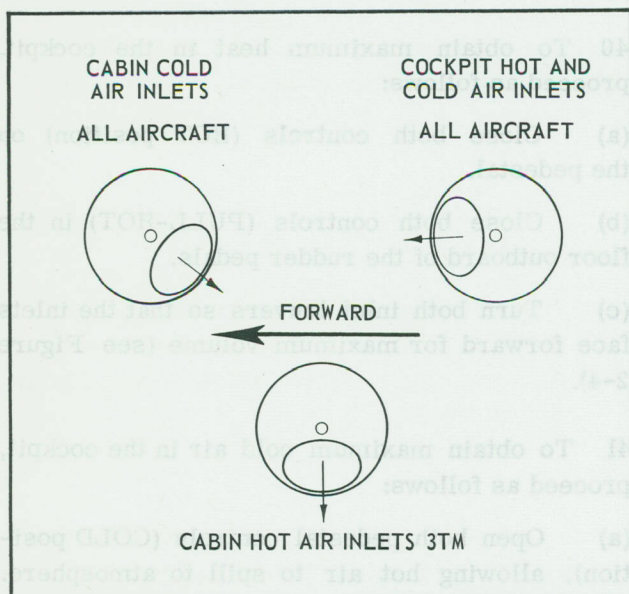

Figure 2-4 Maximum Flow Positions of Inlet Louvers
- (c) Turn both inlet louvers so that the inlets face forward for maximum volume (see Figure 2-4).
- (c) Turn both inlet louvers forward for maximum volume (see Figure 2-4).
- (c) Adjust the inlet louvers on the upper duct for maximum air (see Figure 2-4).
45 To obtain maximum heat in the cabin, adopt the procedure for 3NM and 3NMT aircraft. Then adjust the inlet hot air louver (near the floor) for maximum flow (see Figure 2-4).